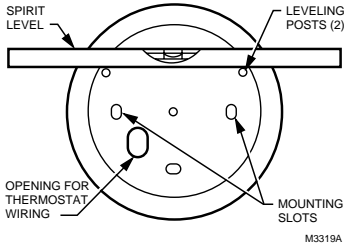

Fig. 1. Leveling wallplate or subbase with spirit level.
1. Use spirit level to accurately level the wallplate or subbase; see Fig. 1. Inaccurate leveling can cause thermostat control deviation.
3. Level according to Fig. 1; then tighten screws.